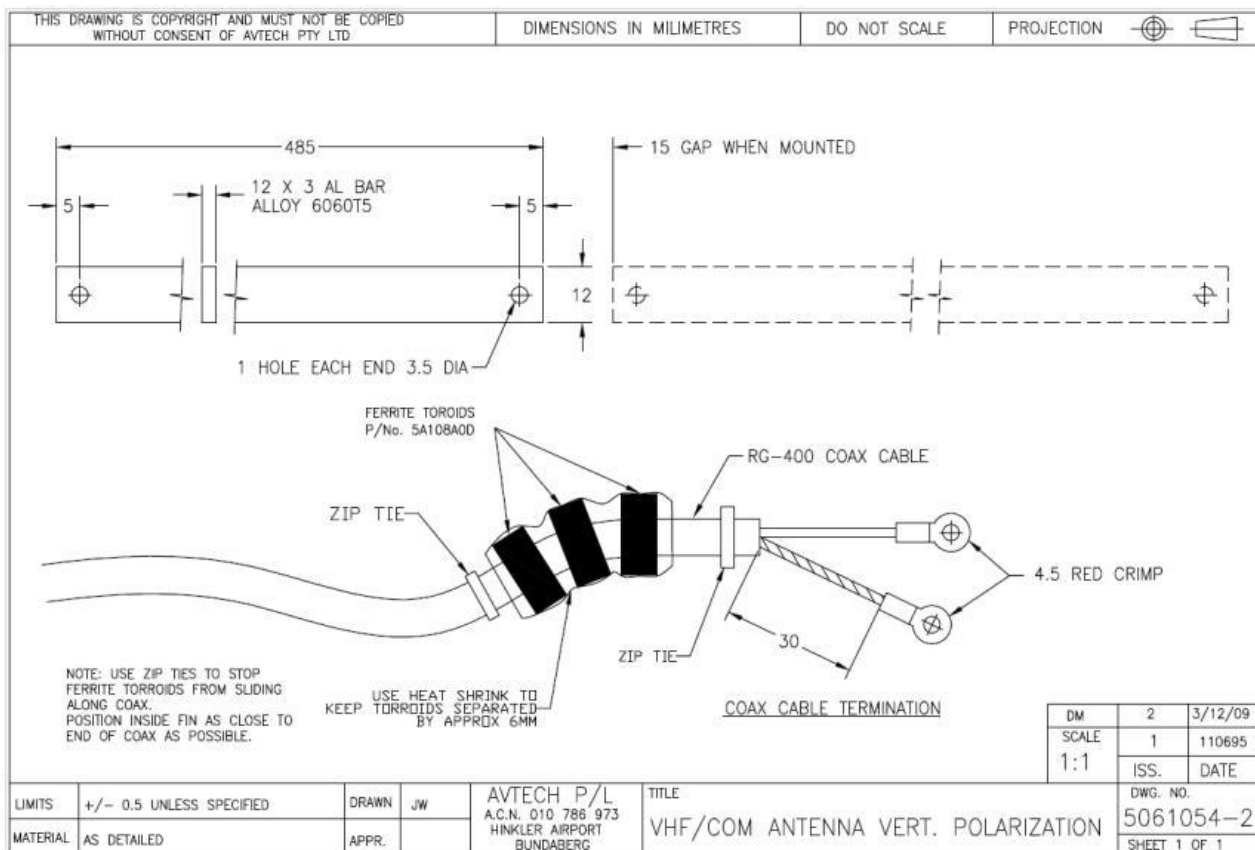

Figure 204 – VHF Antenna Installation (all J-Series)
- The main VHF radio antenna is installed within the spar at the rear of the tail fin. It consists of two sections as shown in Figure 204.